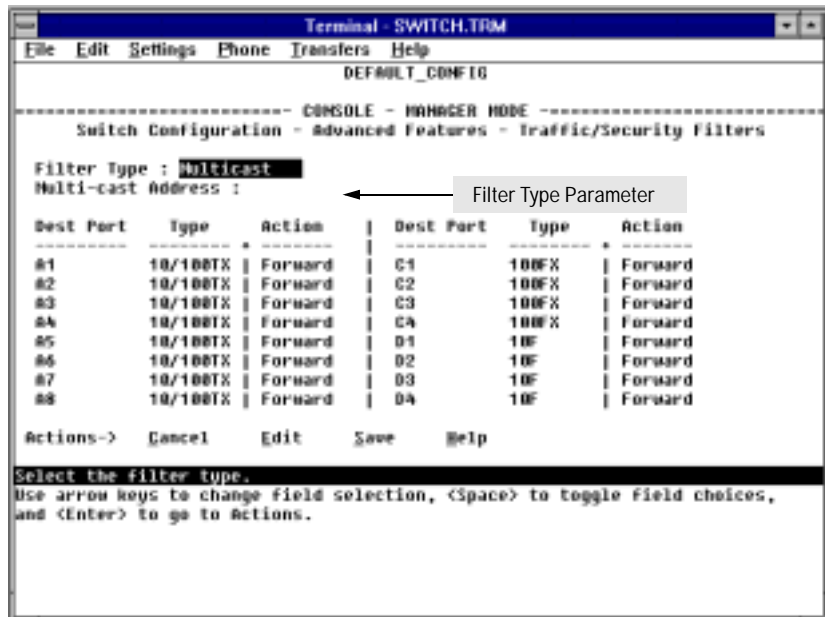

Figure 6-24. Example of the Traffic/Security Filters Configuration Screen
2. In the Actions line, press **[A]** (for **Add**) to display the Traffic/Security Filters Configuration screen shown in figure 6-24.